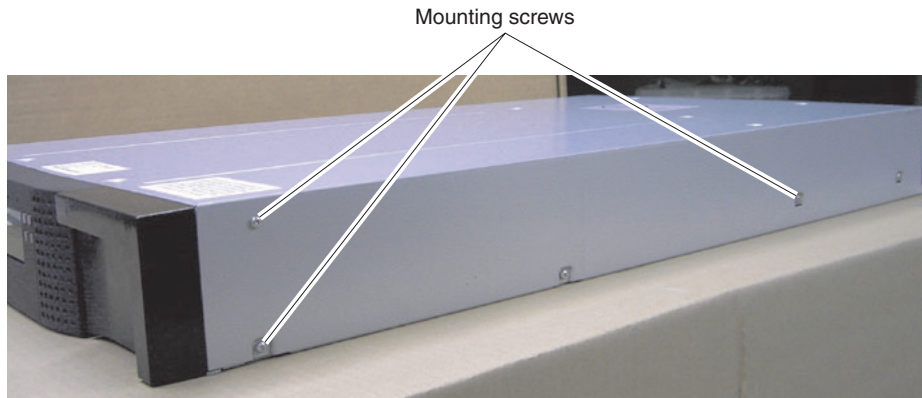

Figure 3. Remove the mounting screws
- e. Remove the mounting screws shown in Figure 3.